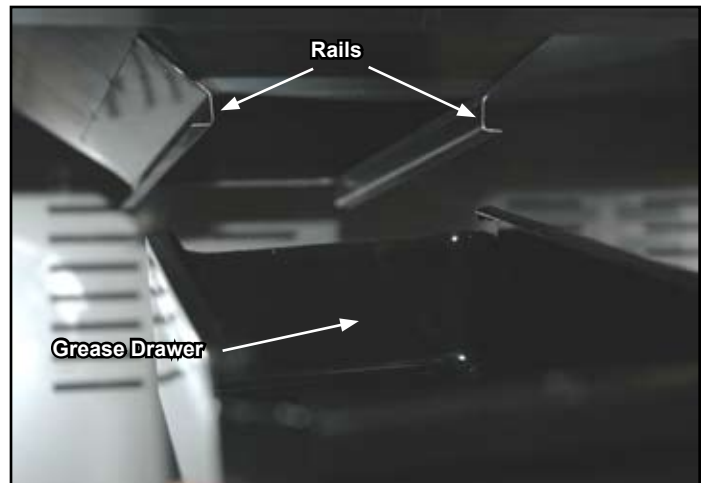

Figure 10
3. Align the back of the grease drawer with the “L”-shaped rails and slide the drawer towards the rear of the cabinet until it stops. See Figure 10.